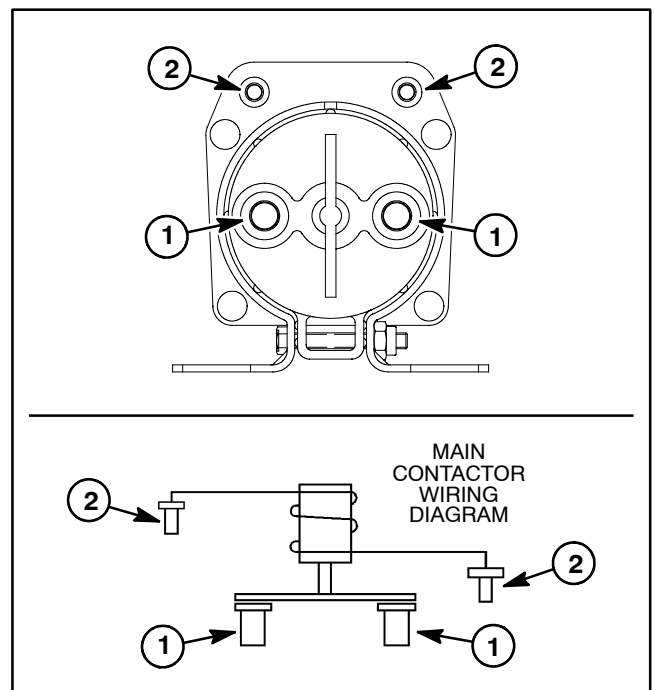

Figure 30
4. Using jumper wires, apply 48 VDC directly across the contactor coil posts (Fig. 30). The contactor should click as voltage is applied. With the contactor coil energized, resistance across the main contact posts should be less than **1 ohm**.
6. With voltage removed from contactor coil posts, measure resistance across the coil posts (Fig. 30). The resistance should be approximately **126 ohms**.